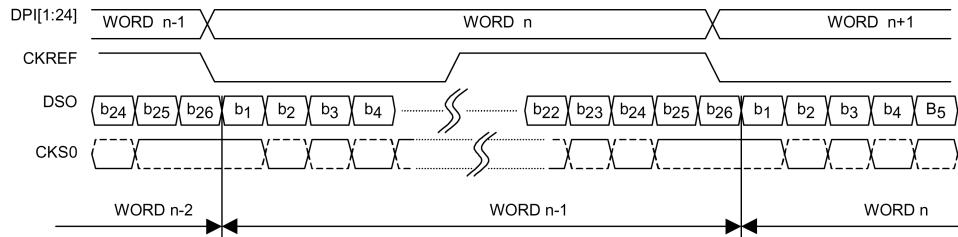

FIGURE 1. Serializer Timing Diagram (CKREF equals STROBE)
**Serializer Operation: (Figure 1)****Modes 1, 2, or 3****DIRI equals 1****CKREF equals STROBE**